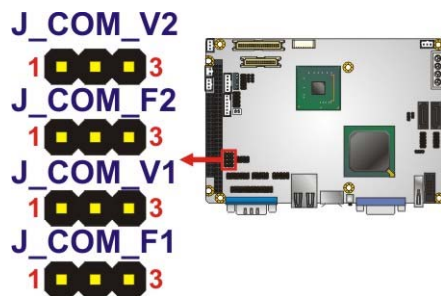

Figure 4-10: COM1 Voltage Jumper Location
- Jumper Location:** See Figure 4-10